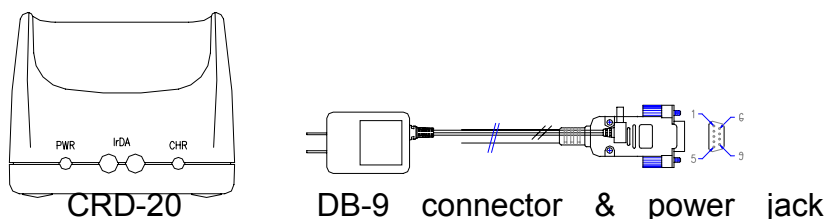

Fig 6
- b. Able to communicate with PC using a widely used RS-232 or USB interface as shown in Fig 6.
There are 2 LEDs and 2 holes at the front bottom of the **CRD-20** as shown in Fig 6. The 2 LEDs are located on the left and right, whereas the two holes in the middle. The LED on the left is illuminated when power is on, and will not be illuminated if the power adaptor is not connected to the AC output, or the 9VDC jack is not inserted into the RS-232 connector. The LED on the right is illuminated when a battery is put in the back slot of the cradle for recharge. It will remain illuminated as long as recharging is going on until a full charge is achieved. It flashes intermittently, however, when the battery slot is empty, indicating that the cradle is detecting the presence of the battery. The LED at the upper-right corner of the terminal is illuminated when the terminal is placed on the cradle for a recharge, and will be off when a full recharge is achieved.